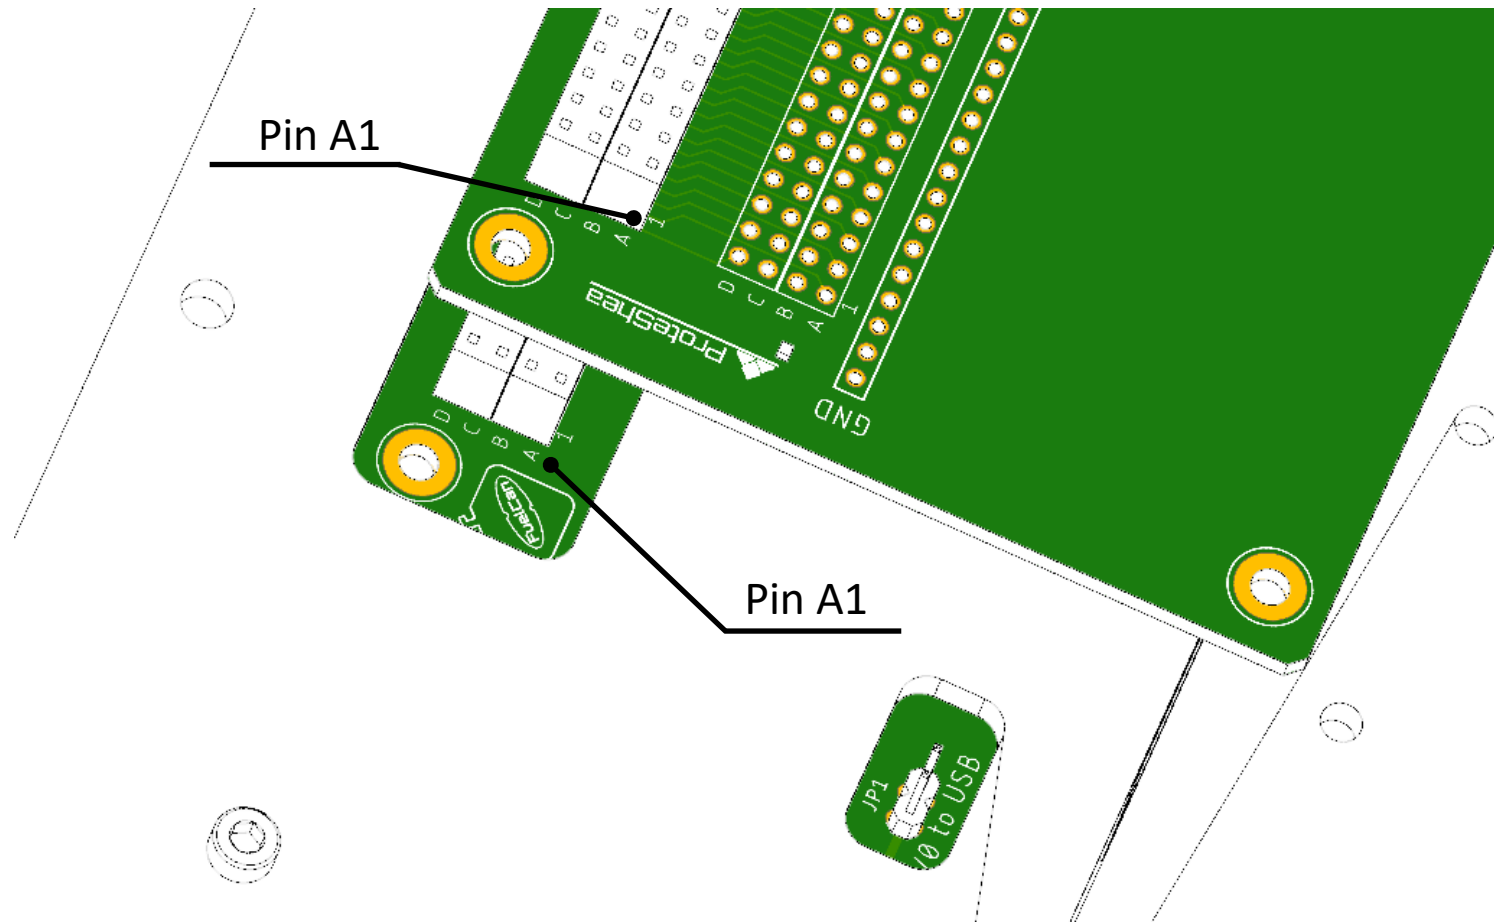

Figure 10. Proper Alignment of Canister to Main Interface Board.
4. Use Fig. 10 below to correctly orientate the Canister with the Fuelcan Main Interface or another Canister by aligning pin A1 on both boards.